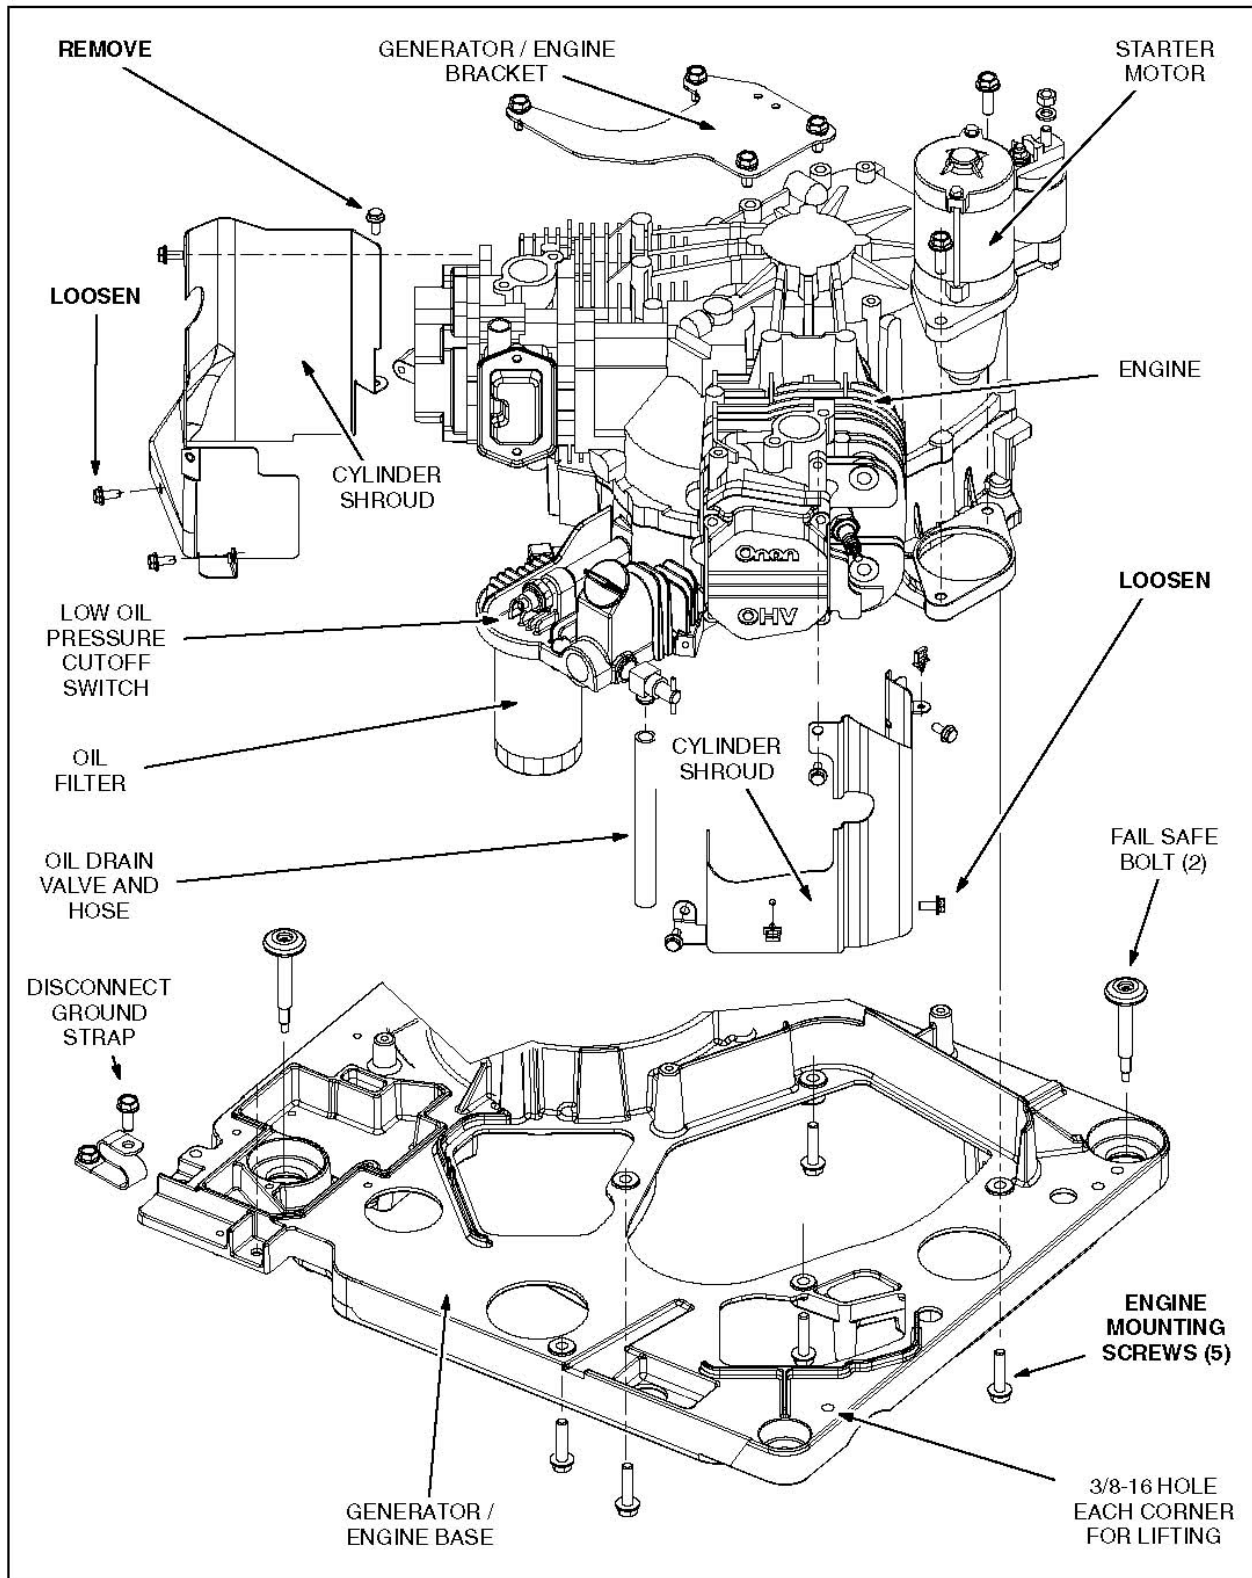

FIGURE 56. ENGINE
Figure 56 illustrates how the engine is mounted on the alternator/engine base. The flywheel, exhaust manifold and mounting bolts are accessible for removal on the bottom side of the base.
2. Remove the alternator/engine bracket and loosen, or remove the cylinder shroud screws shown in Figure 56.
- To remove the starter motor (Figure 56), disconnect all wiring and remove the two mounting screws. Follow the instructions in the starter motor kit if the starter is going to be repaired.